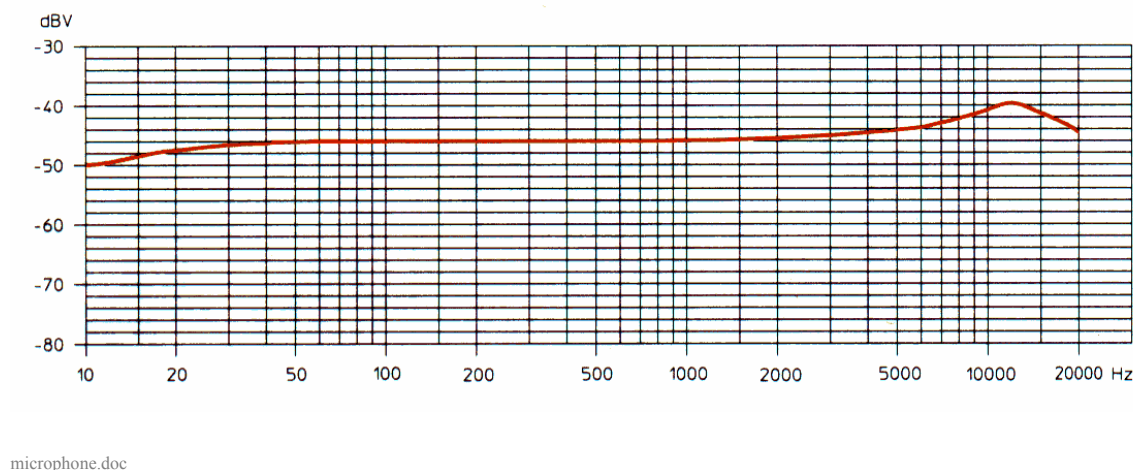

Figure 3: Frequency response function of the microphone
3. This is an old exam problem that I gave in the Winter Quarter of 2000. Figure 3 shows the Bode plot of a microphone that we recently purchased for the lab. The input the pressure (in Pa), and the output is voltage (in V). Answering the following questions by looking up the Bode plot. Also, explain how you come up with your answer.